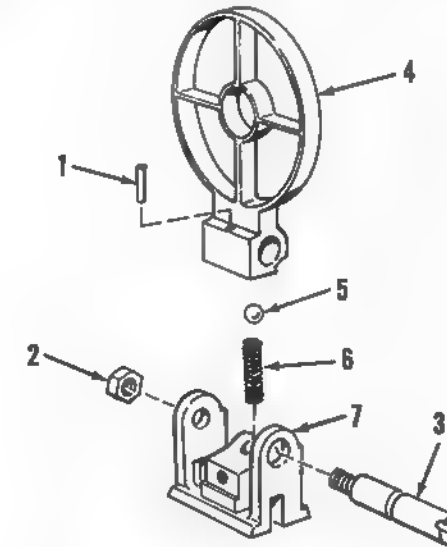
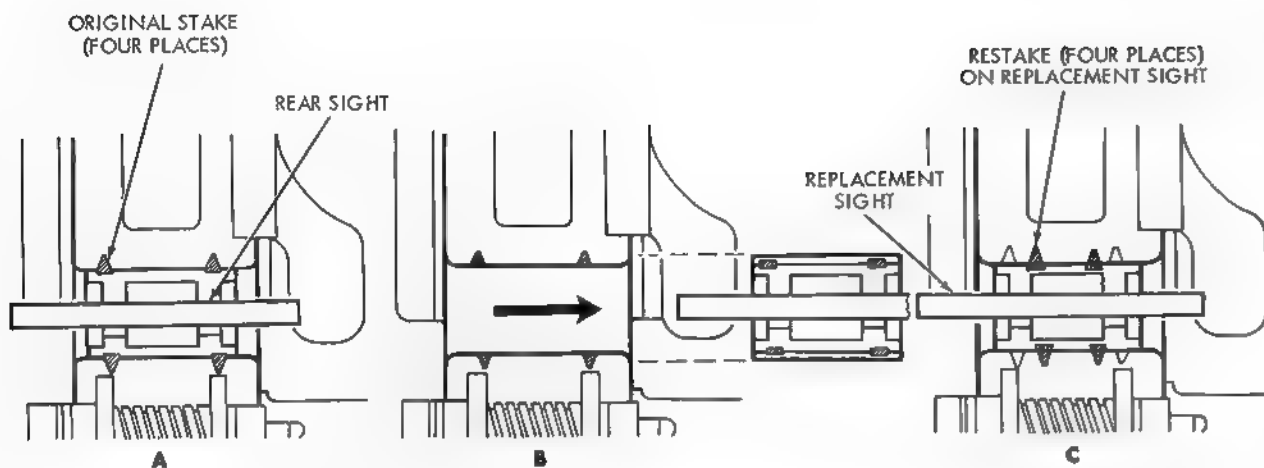

Figure 3-9. Rear Sight Assembly—exploded view.
Figure 3-10. Removing or installing rear sight assembly.
a. *Disassembly and/or Assembly.* Refer to figure 3-9.
- (1) Inspect sight assembly for cracks and distortion.
- (2) Examine base for burrs, cracks, and distortion. Remove and replace if unserviceable.
- (3) Examine ball, spring, and retainer for damage. Replace if unserviceable.
c. *Replacement.* Refer to figure 3-10 for replacement of sight.